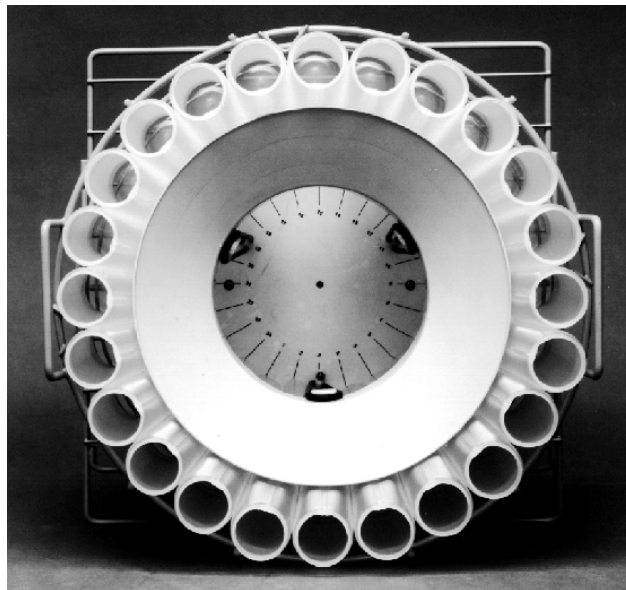

Figure 2-9 Sample Bottle Rack with 24 Plastic Sample Bottles
4. Place the new plastic bottles in the rack as shown in Figure 2-9. Note the four metal triangles on the inside of the rack which rotationally align the bottles.